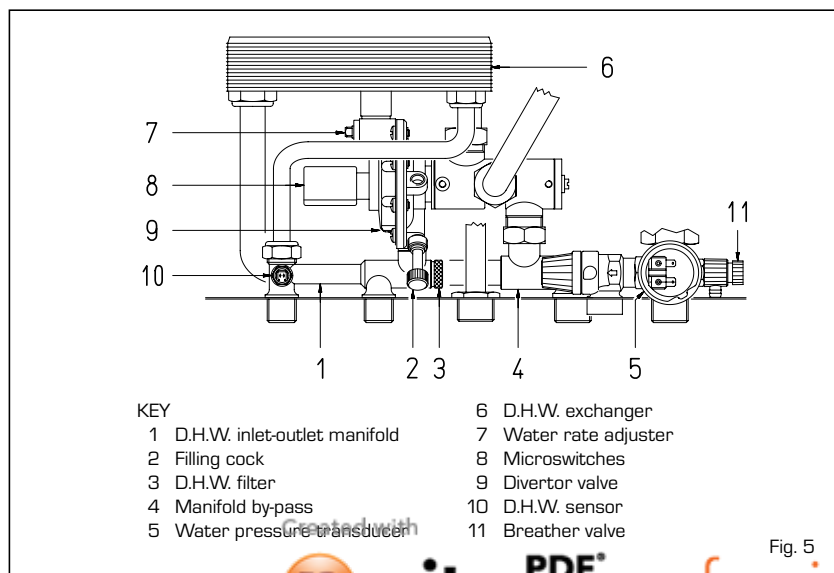

Fig. 5
- "25 BF - 30 BF" models: using the fill cock on the pressure switch valve (2 fig. 5).